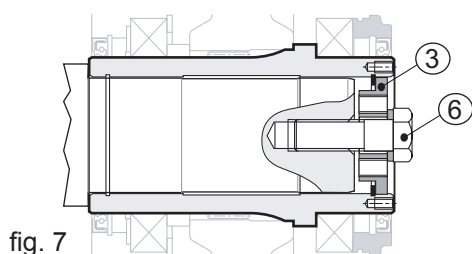

fig. 7
unscrew the threaded rod nut (pos. 4) and take it out of its seat. Replace the rod (pos. 4) with screw (pos. 6), torquing it down fully to the torque value shown in the "torque settings" table in section 9.1, using an intermediate threadlocker. Piv Posiplan recommends LOCTITE 601 (see Fig. 7).